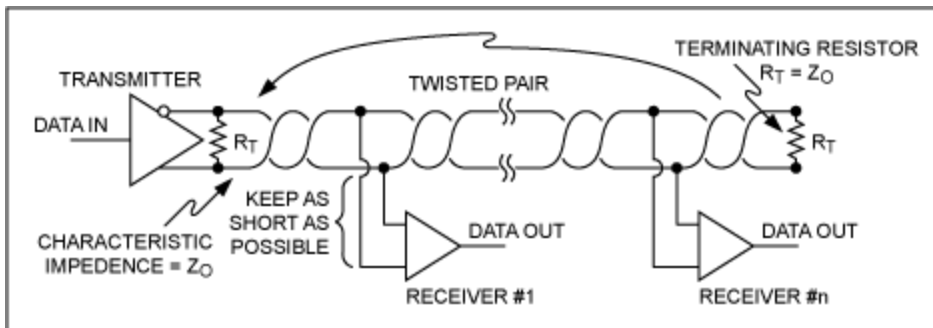
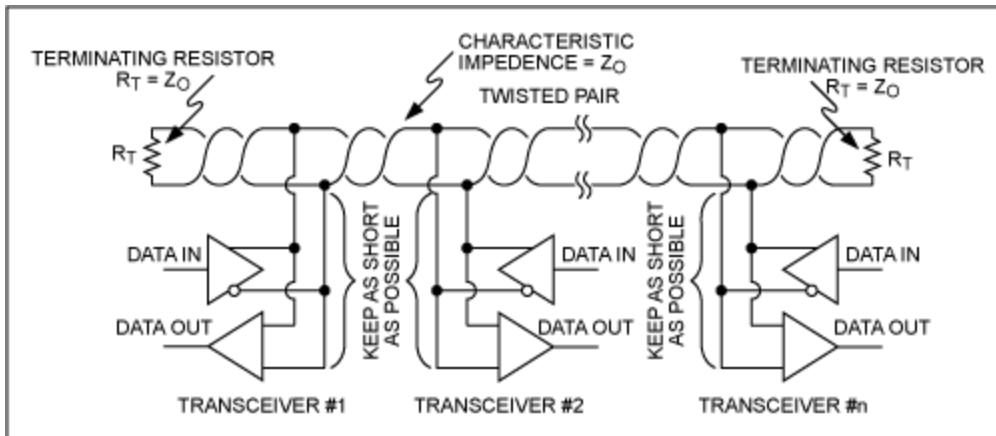

Figure 7. A one-transmitter, multiple-receivers RS-485 network.
Figure 9. A multiple-transceivers RS-485 network.
**Figure 7** shows a one-transmitter multiple-receivers network. Here, it is important to keep the distances from the twisted pair to the receivers as short as possible.
Figure 9 shows a multiple-transceivers network. As with the one-transmitter and multiple-receivers example in Figure 7, it is important to keep the distances from the twisted pair to the receivers as short as possible.